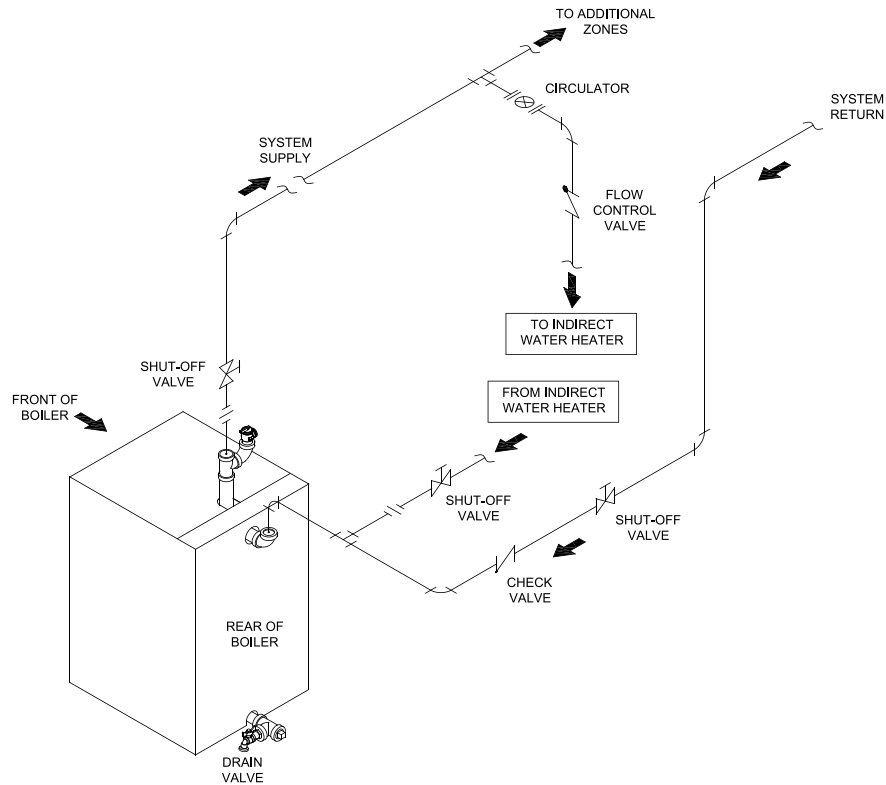

Figure 12A: Indirect Water Heater Piping w/Supply Side Circulator on Circulator Zoned Heating System
A. CONNECT INDIRECT DOMESTIC WATER HEATER PIPING as shown in Figure 12A and 12B.